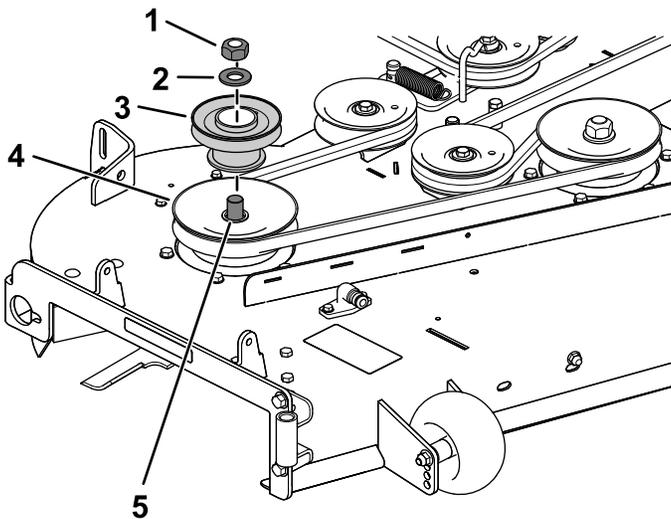

Figure 11
2. Install the pulley assembly to the right mower deck pulley with the previously removed nut and washer (Figure 11).